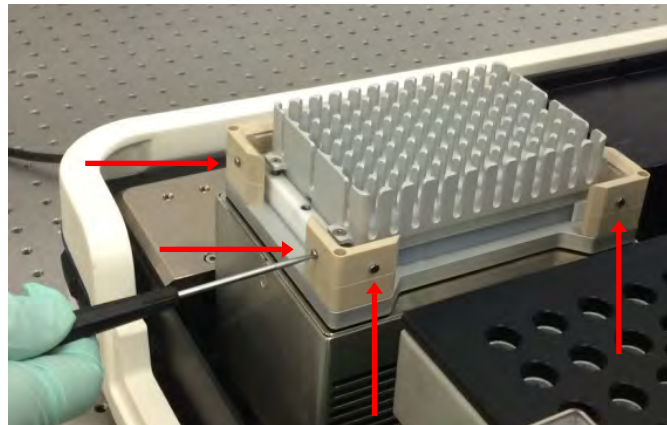

Figure 5 Grub screws on the Thermoshake device
① Locations for the 3 screws to fasten the adapter plate to the Thermoshake device.
3. Using the slotted screwdriver, tighten the 8 grub screws, 2 at each corner, found at the top of the Thermoshake device (Figure 5).